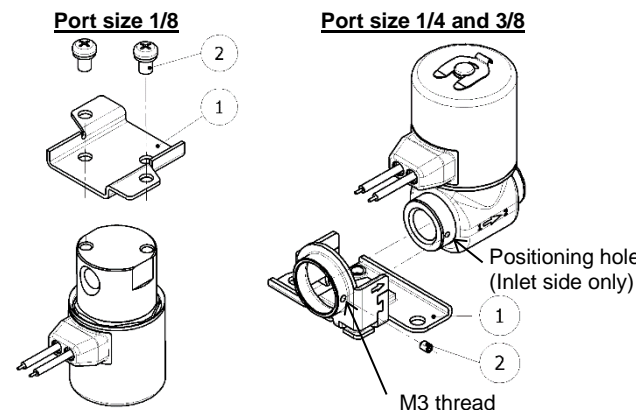

Figure 2. Bracket installation
3.4 Bracket installation (See Figure 2)